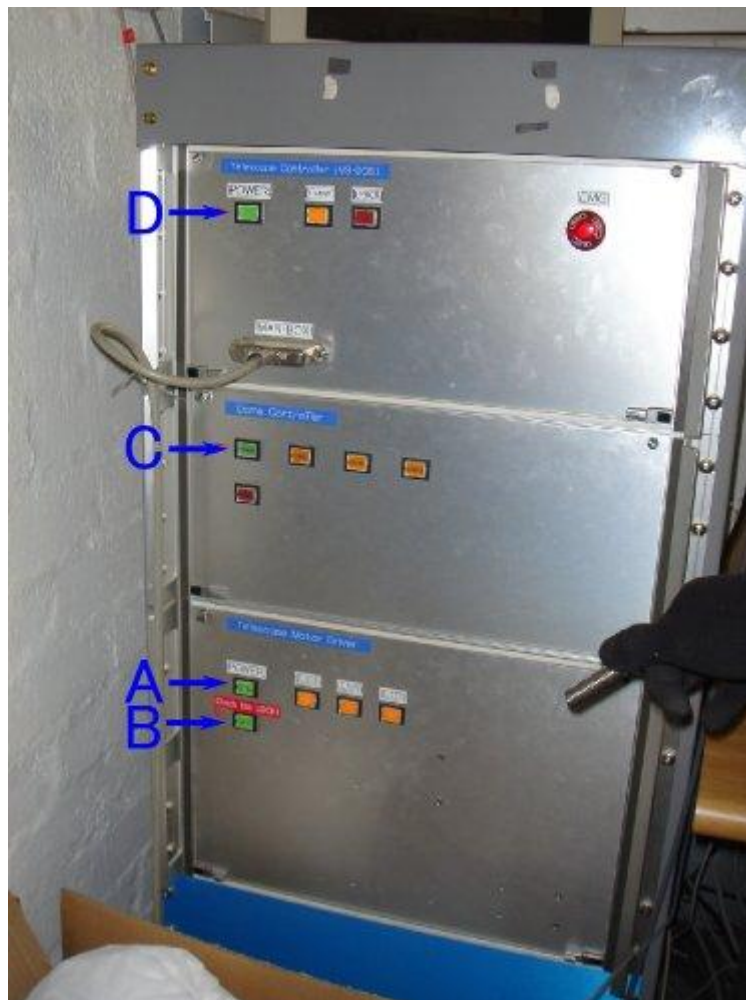

Figure 1: Telescope rack
- Push **button D** in the Figure 1, and then "MS-DOS" computer will stop.
- Push **button C** in Figure 1.
- Push **button B** in Figure 1.